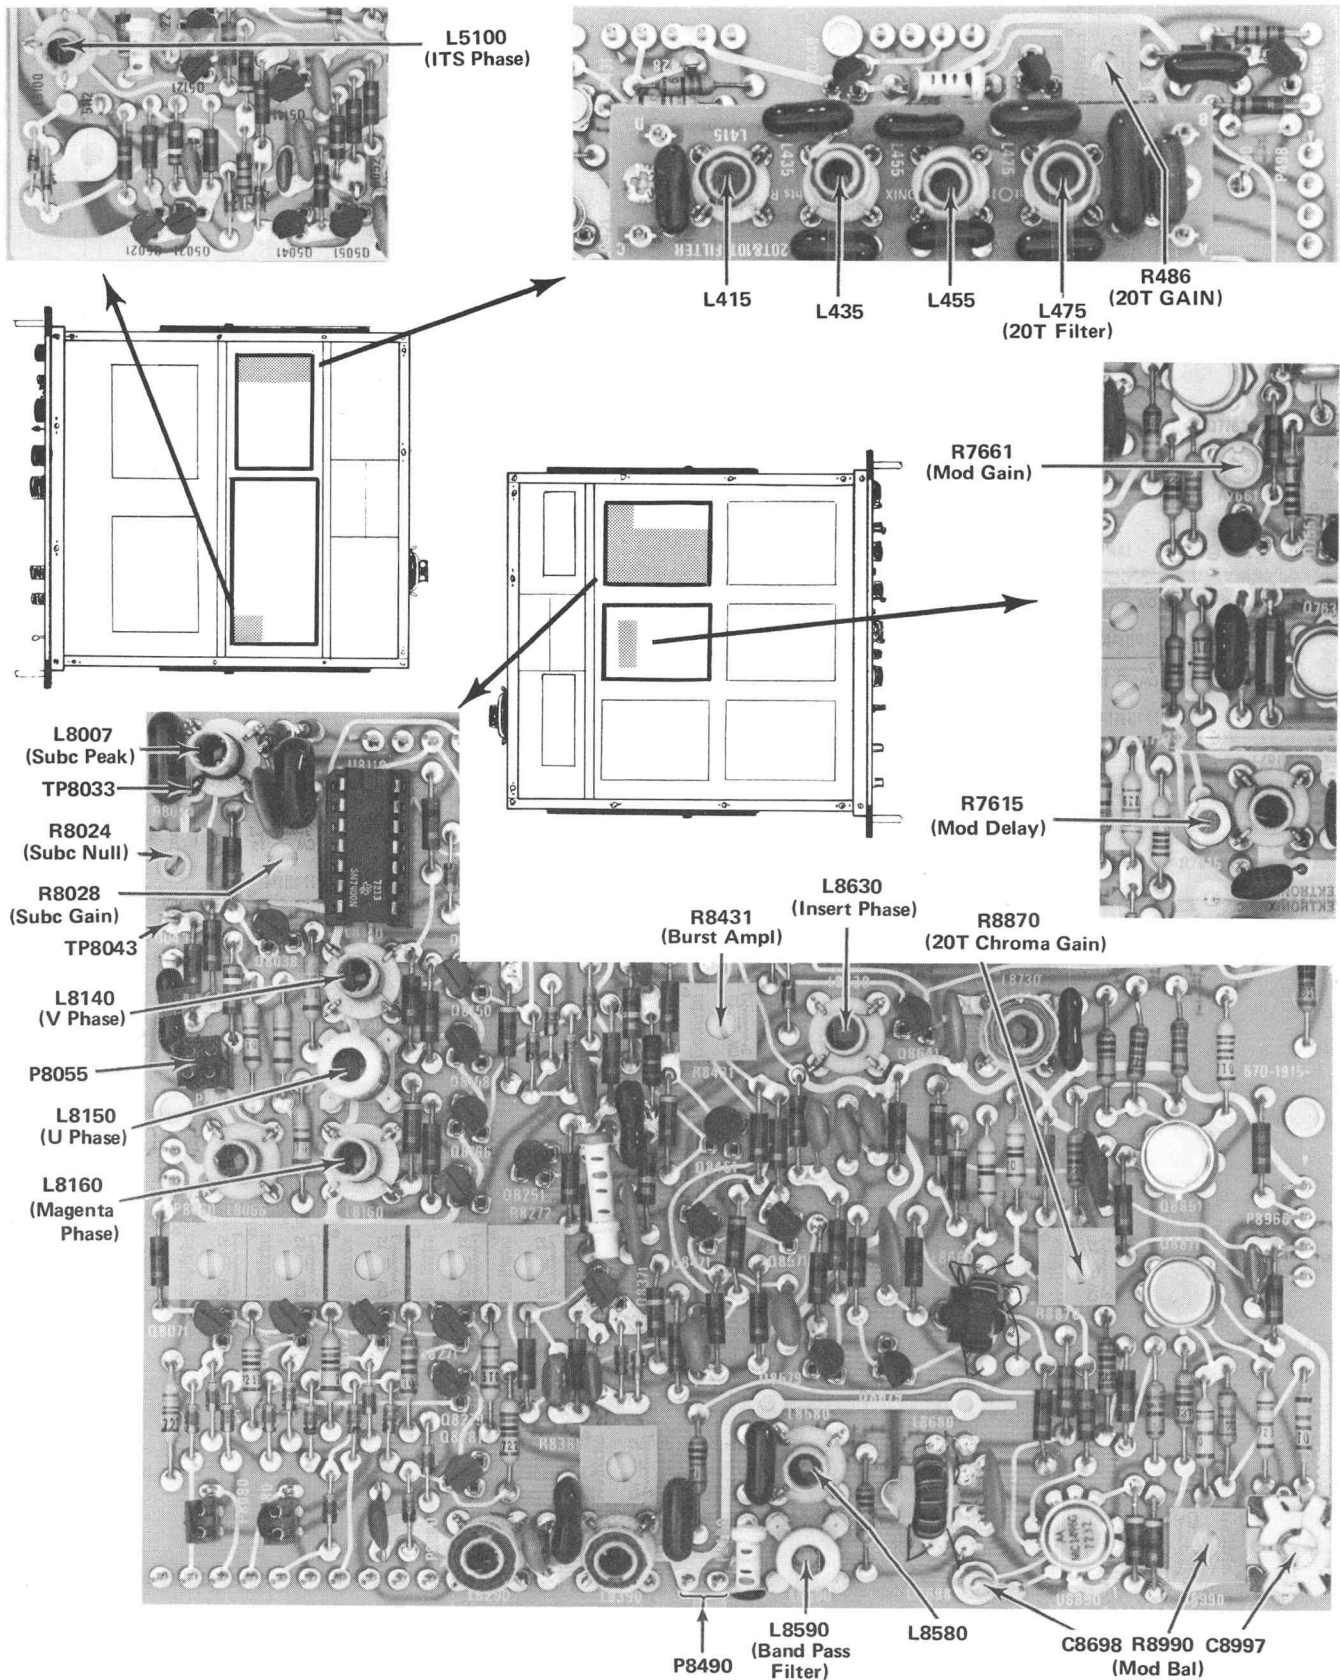

Fig. 4-13. Modulated pulse adjustment pin connector and plug location.
b. Refer to Fig. 4-13 for all adjustments in this group.
ADJUST—R7615 (Mod Delay); L8580, L8590 (Band-pass Filter); R8870 (20T Chroma Gain); R486 (20T Gain); R7453 (P & B Sync Level); and L415, L435, L455, L475 (20T Filter) for a Sin^2 Pulse with characteristics given. (Refer to the adjustment sequence in GROUP 6, and Fig. 4-13.)